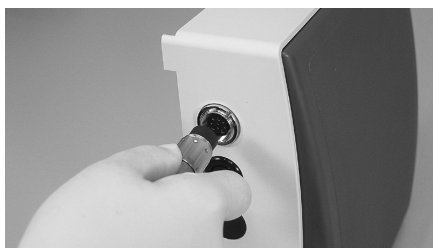

Fig.3
Insert the motor cord plug locator into ⑬ Motor Connector aligning it with the groove of the connector, and tighten the motor cord plug nut to fix. (Fig. 3)